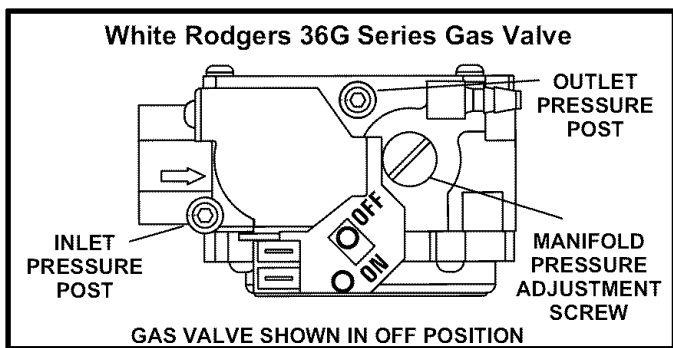
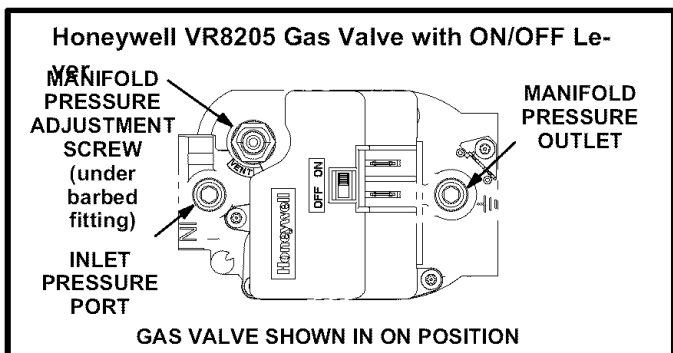
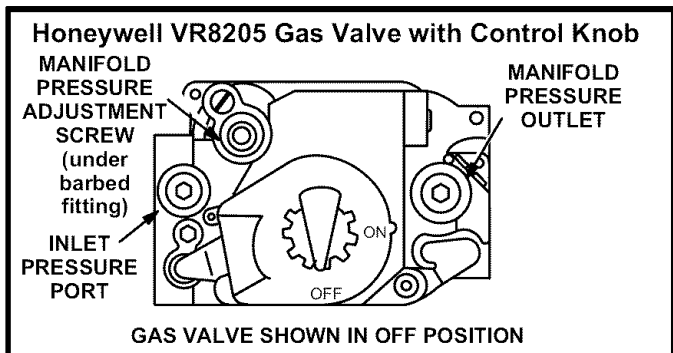

FIGURE 58
FIGURE 59
FIGURE 60
Gas Valve Operation (Figures 58 and 60)
- 6 - *White Rodgers 36G Gas Valve or Honeywell VR8205 Gas Valve with ON/OFF Lever* - Switch gas valve lever to **OFF**. See figure 58 for the White Rodgers 36G valve. See figure 59 for the *Honeywell VR8205 valve. Honeywell VR8205 Gas Valve with Knob* - Turn knob on gas valve clockwise  to **OFF**. Do not force. See figure 60.
- 8 - *White Rodgers 36G Gas Valve or Honeywell VR8205 Gas Valve with ON/OFF Lever* - Switch gas valve lever to **ON**. See figure 58 for the White Rodgers 36G valve. See figure 59 for the *Honeywell VR8205* valve. *Honeywell VR8205 Gas Valve with Knob* - Turn knob on gas valve counterclockwise to **ON**. Do not force. See figure 60.
- 2 - After the line pressure has been checked and adjusted, check the regulator pressure. A natural gas to LP/propane gas changeover kit is required to convert the unit. Manifold pressures are given in table 11. See figures 58, 59 and 60 for the location of the manifold pressure adjustment screws.
The White Rodgers 36G gas valve (figure 58) is equipped with pressure posts for measuring supply and manifold pressures. The posts provide built-in hose connections and have an integral 3/32" Allen-head screw. Rotate the screw counterclockwise one full turn to permit pressure measurement. Reseat the screw (rotate one full turn clockwise) after measurements have been taken to prevent gas leakage.